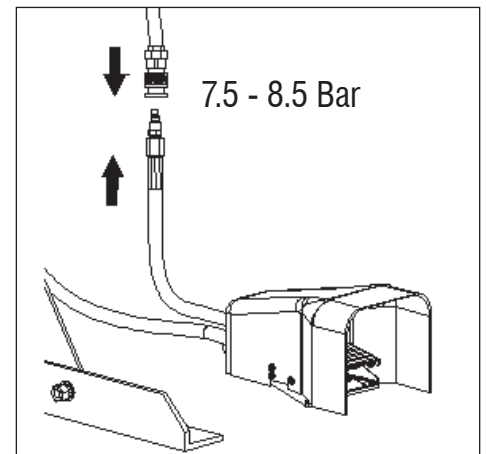

Fig. 16
- Connect foot pedal to the air source, make sure that the air pressure from the source is between 7.5 Bar and 8.5 Bar (refer to Fig. 16).
- Connect the air hose of air foot valve to the air source. (Fig. 16)